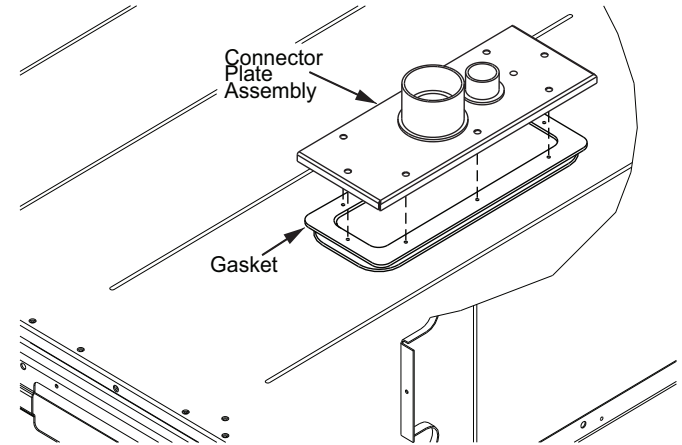

Fig. 41 — Installing Thru-the-Base Option
3. Place the gasket over the embossed area in the basepan, aligning the holes in the gasket to the holes in the basepan. (See Fig. 41.)